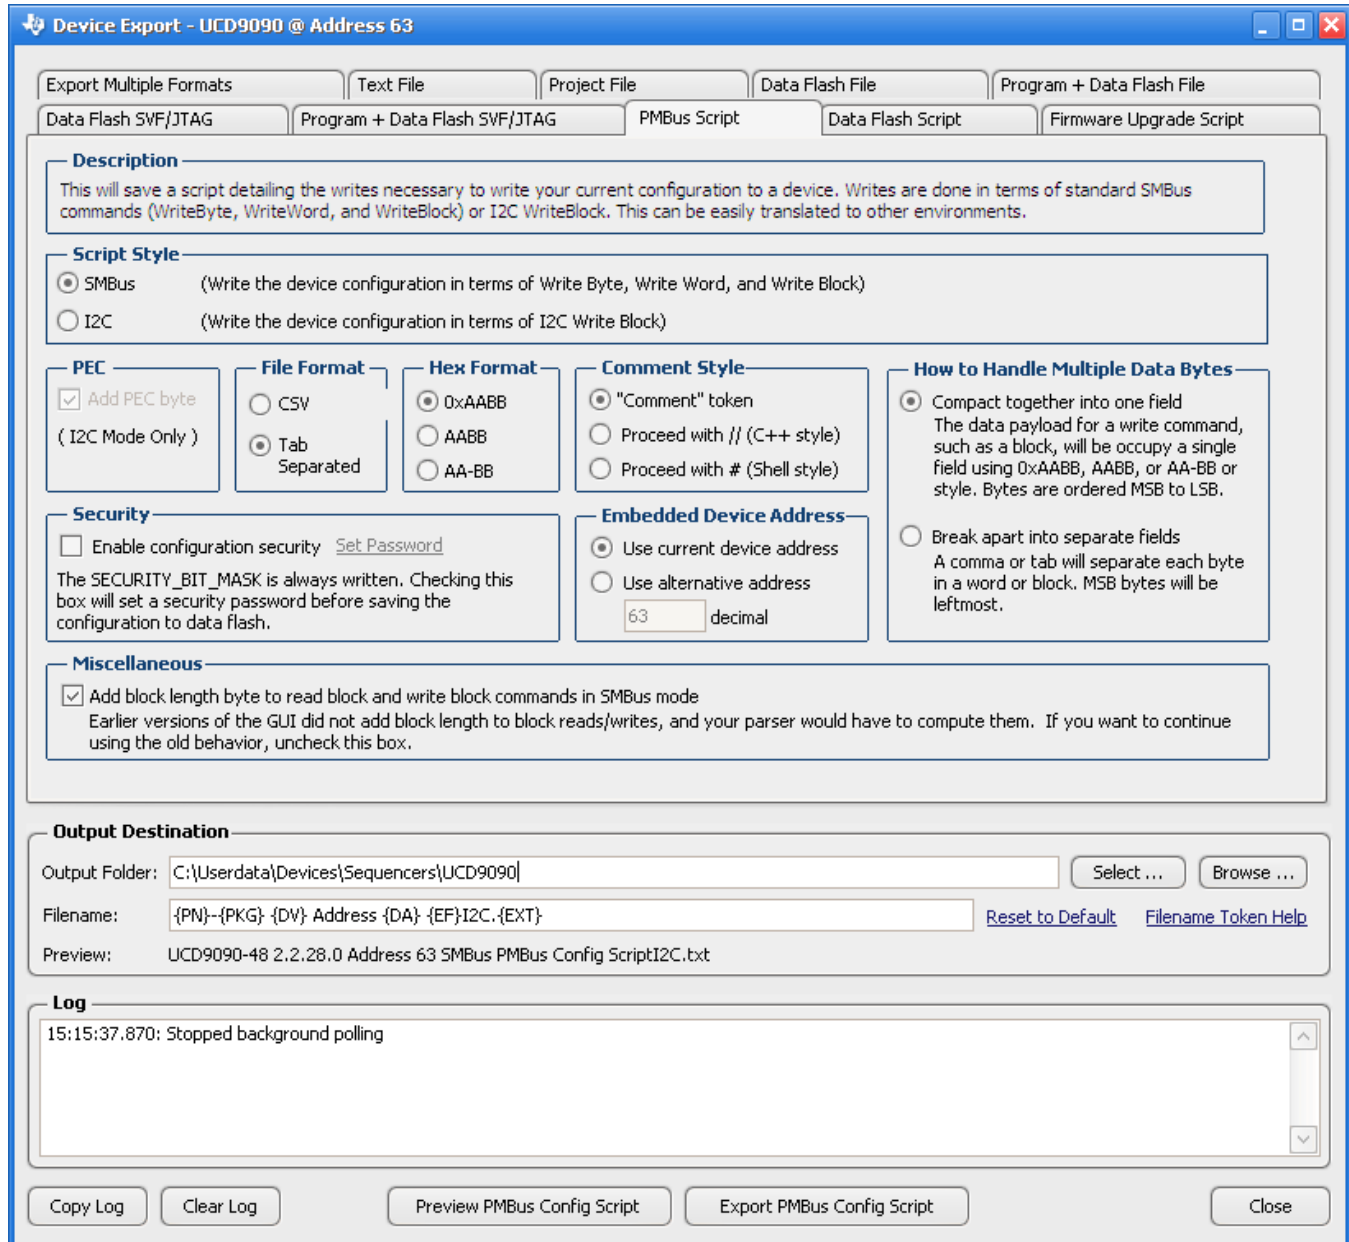

Figure 30. Fusion GUI PMBus Configuration Script Export Tool
- The *Fusion GUI* (Figure 30) can create a PMBus or I²C command script file that can be used by the I²C master to configure the device.